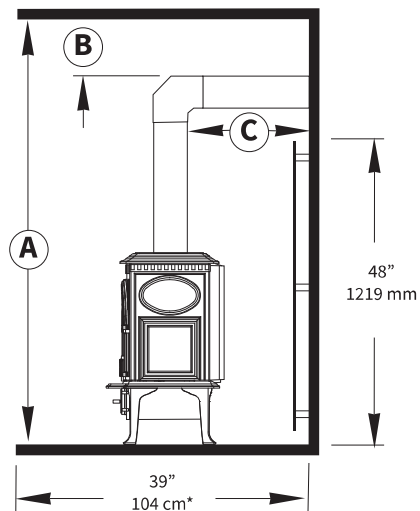

Figure 37. Alcove with Wall Protection
- Min. Ceiling & Connector Clearance, Fig. 37.